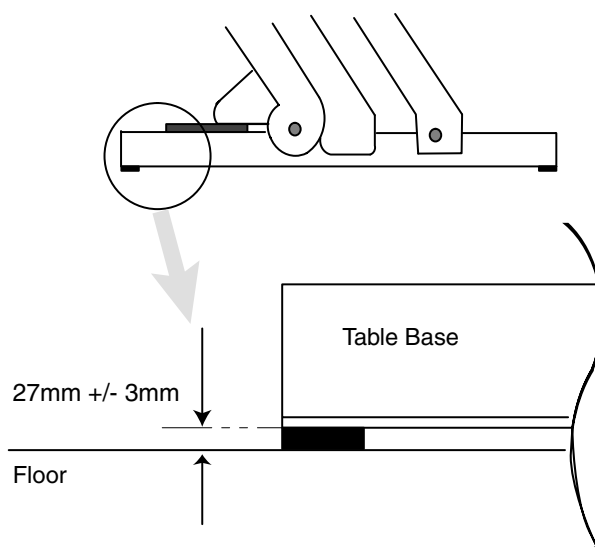

Figure 1-22 Typical Table Base Clearance
- 9.) There must be a minimum of $27\text{ mm} \pm 3\text{ mm}$ between the bottom of the table base and the floor for the covers to fit correctly. Check the distance between the table base and the floor, to ensure that the covers fit properly (see Figure 1-22 and Figure 1-23).